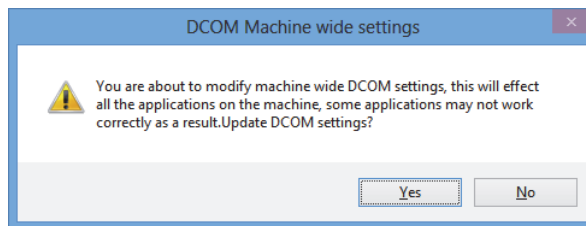

Figure 2-19 The DCOM Machine wide settings dialog box
18. In the **DCOM Machine wide settings** dialog box (see Figure 2-19 on page 44), click **Yes** to confirm the update and then, in the **My Computer Properties** dialog box, click **OK**.